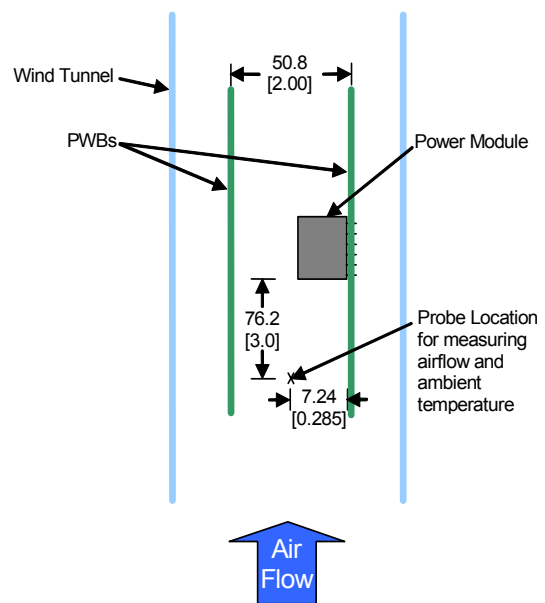
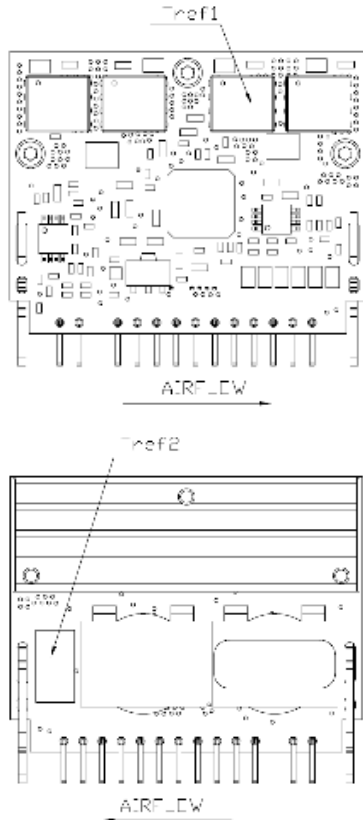

Figure 26. Thermal Test Set-up.
Figure 27. Temperature measurement locations T_{ref1} and T_{ref2} .
Considerations include ambient temperature, airflow, module power dissipation, and the need for increased reliability. A reduction in the operating temperature of the module will result in an increase in reliability. The thermal data presented here is based on physical measurements taken in a wind tunnel. The test set-up is shown in Figure 26. The preferred airflow direction for the module is in Figure 27.
The thermal reference points, T_{ref1} and T_{ref2} used in the specifications are shown in Figure 27. For reliable operation the temperature at T_{ref1} should not exceed 120°C, and the temperature at T_{ref2} should not exceed 105°C. Please refer to the Application Note “Thermal Characterization Process For Open-Frame Board-Mounted Power Modules” for a detailed discussion of thermal aspects including maximum device temperatures.